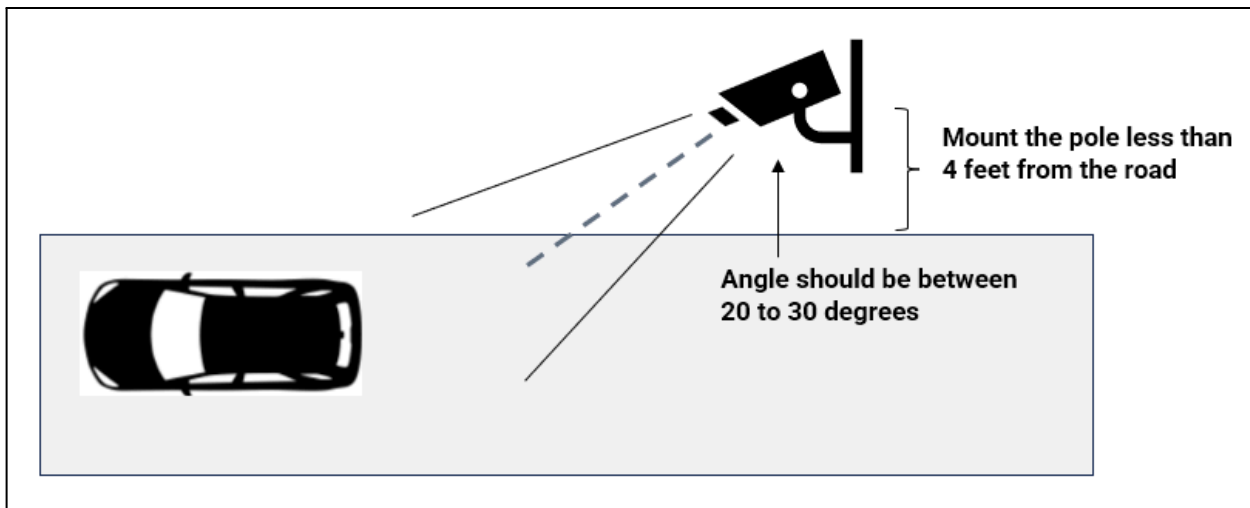

Figure 8: Representation of pan angle and distance from the road to the camera installation pole
2. **Pan angle** - The pan angle of the camera must be limited to 30° as the perspective view would impact the plate reading. See Figure 8 for an example.